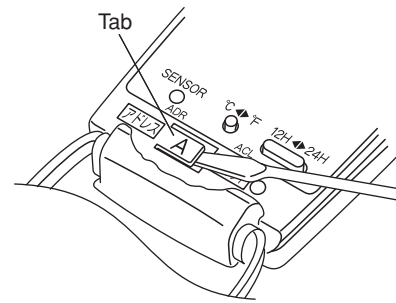
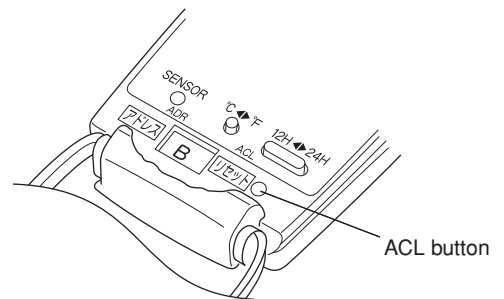
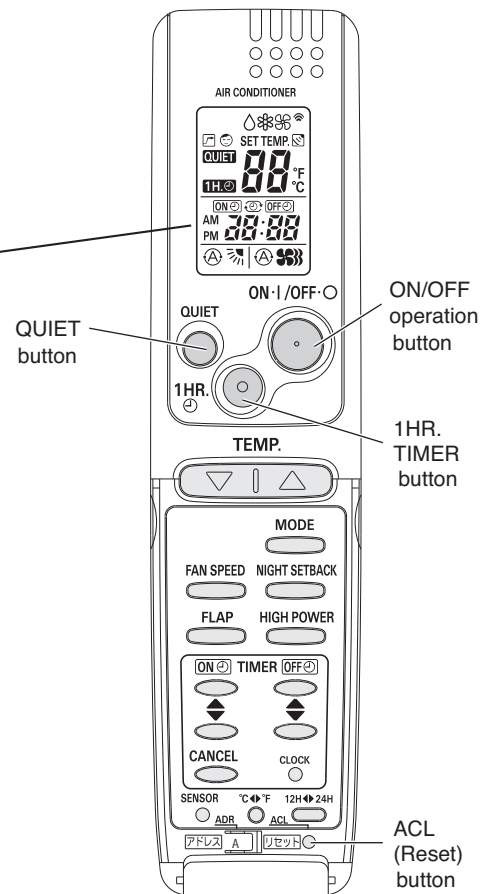

Fig. 62
Fig. 63
Fig. 64
- (1) Switch on the power source.
- (2) Break the address-setting tab marked “A” on the second remote controller to change the address (Fig. 62). When the tab is removed, the address is automatically set to B (Fig. 63).
- (3) Press and hold the remote controller QUIET button and 1HR. TIMER button. Then, press and hold the ACL (Reset) button with a pointed object such as the tip of a pen. After 5 seconds, release the ACL button first, then release the QUIET and 1HR. TIMER buttons. “oP-1” (Test Run) appears, blinking in the remote controller clock display area.
- (4) Each time the 1HR. TIMER button is pressed, the display changes as shown below. Press this button 2 times to change the display to “oP-7” (Address setting). (Fig. 64)
- (5) “oP-7” has now been selected for address setting.
- (6) Press the ON/OFF operation button on the remote controller. (Fig. 64) Check that the “beep” signal-received sound is heard from the second indoor unit (approximately 5 times). The sound you hear is the signal that the remote controller address has been changed.
- (7) Finally press the remote controller ACL (Reset) button to cancel the blinking “oP-7” display. (Fig. 64)